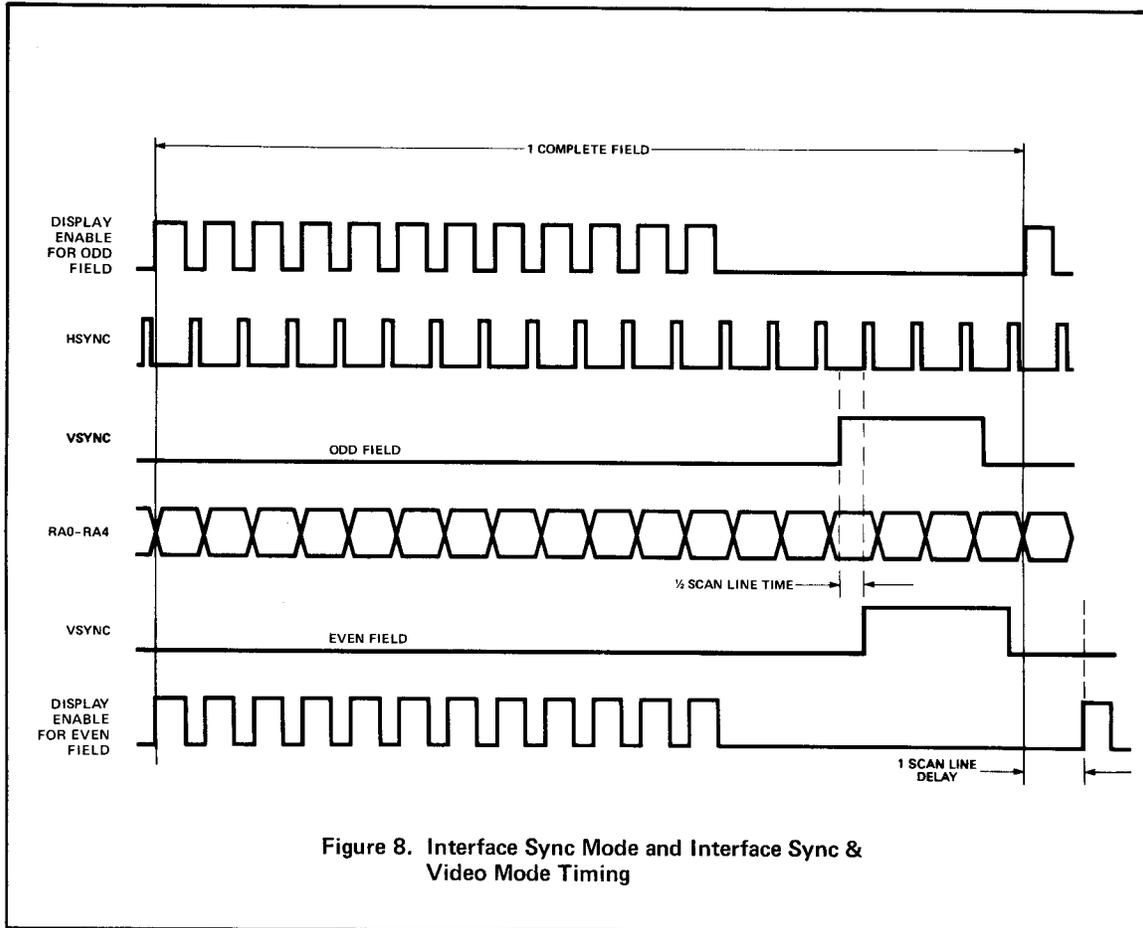

Figure 8. Interface Sync Mode and Interface Sync & Video Mode Timing
b) **Interlace Sync Mode.** This mode is used when the same information is to be displayed in both odd and even fields. Enhanced readability results because the spaces between adjacent rows are filled and a higher quality character is displayed. This is achieved with only a slight alteration in the device operation: in alternate fields, the position of the VSYNC signal is delayed by  $1/2$  of a scan line time. This is illustrated in Figure 8 and is the only difference in the SY6845 operation in this mode.